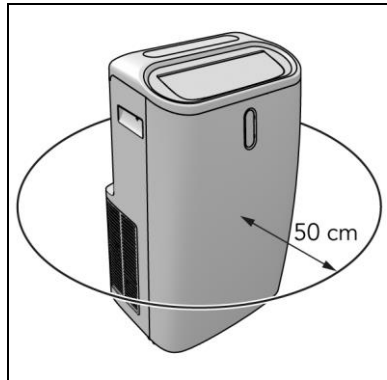

Figure 7
3. Place the device with a minimum clearance distance of 50 cm on all sides (Figure 7).